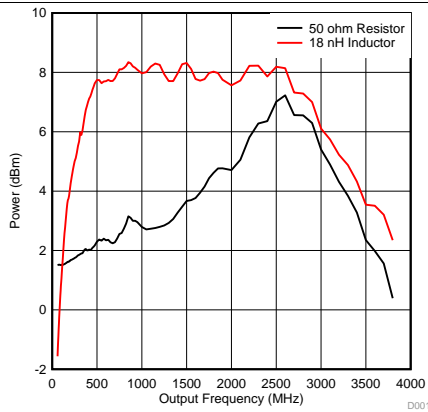

Figure 8. Single-Ended Output Power vs. Frequency
**Figure 8** was measured with a board with very short traces. Only one of the differential outputs is routed.